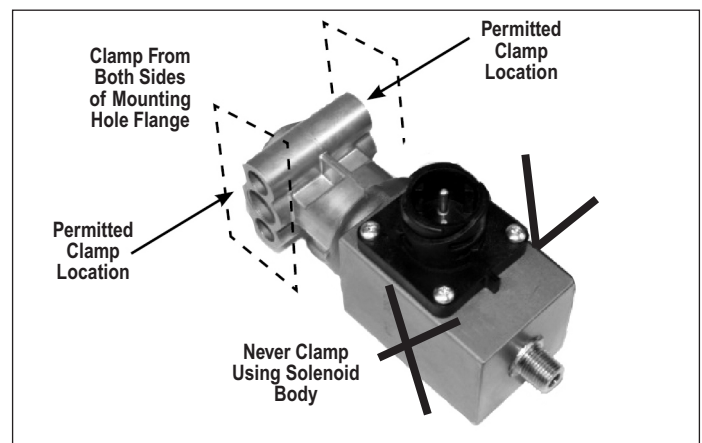

FIGURE 3 - VISE CLAMP LOCATION FOR BENCH INSTALLATION OF FITTINGS
- (b) bench installation of the fittings, using **only** the clamp location shown in Figure 3, before installing the valve on the vehicle.